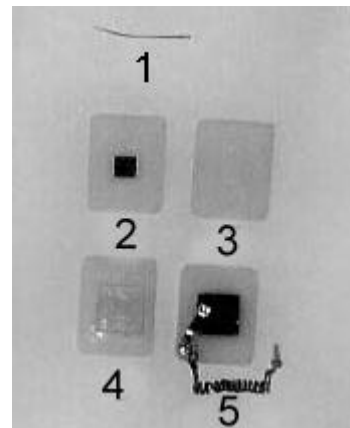

**Fig. 19**
- b) with bias voltage contact strip for STM-study of thin samples (Fig. 19),